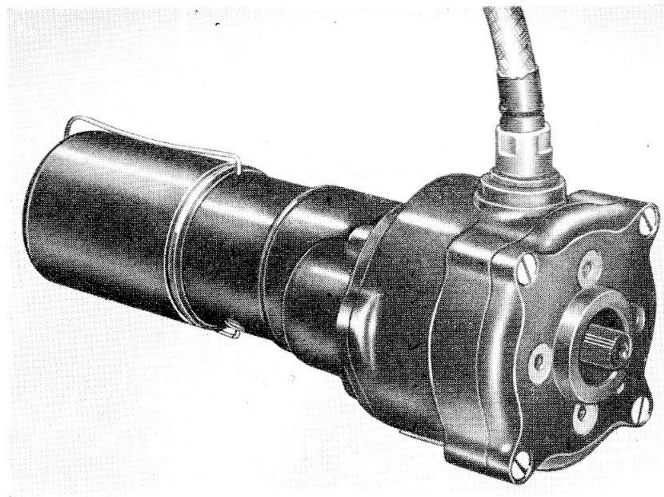

Fig. 1. Type C5527 actuator
1. This actuator (*fig. 1*) is generally similar to that described in the main chapter, with the exception that no limit switches are fitted. The output shaft travel is controlled by external switches, and it is important that these should operate efficiently to avoid overrunning of the actuator.